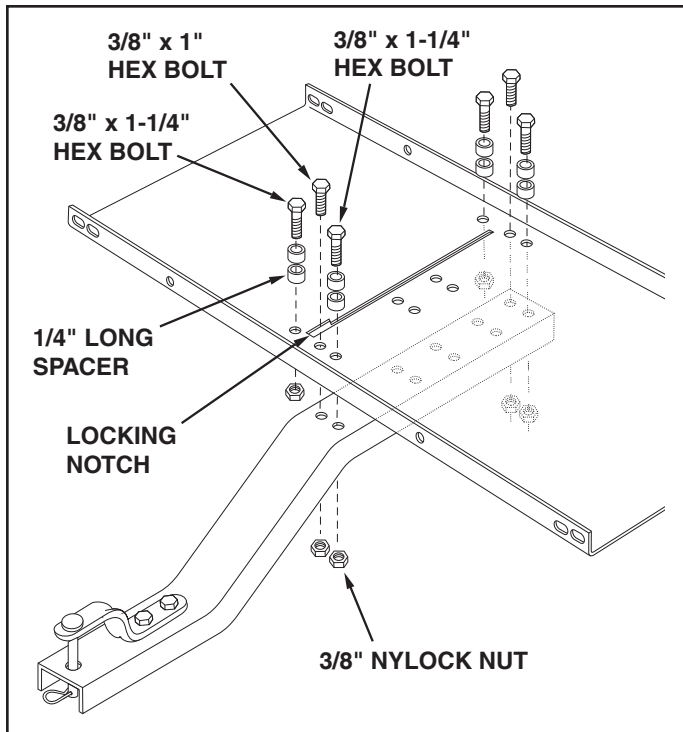

FIGURE 8
IMPORTANT: Make sure the tray is turned so that the locking notch is at the front as shown in figure 8.
11. Assemble the tongue to the tray using two 3/8" x 1" hex bolts, two 3/8" x 1-1/4" hex bolts, four 1/4" long spacers, and four 3/8" nylock nuts as shown in figure 8. **Tighten.**
12. Assemble two 3/8" x 1-1/4" hex bolts, four 1/4" long spacers and two 3/8" nylock nuts to the holes on the other side of the slot in the tray. **Tighten.** See figure 8.